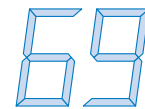

Figure xDec.2
- Dec.2** Modify the seven-segment-decoder ABEL program in Table Dec-3 so that the digits 6 and 9 have tails as shown in Figure xDec.2. In addition, display the character “E” for nondecimal inputs 1010 through 1111. Synthesize both the original program and the modified program for your favorite CPLD, and compare the number of product terms in the two versions.
- Dec.3** Enhance the ABEL program in Table Dec-3 by providing an input signal TAILS which, when asserted, causes the digits 6 and 9 have tails as shown in Figure xDec.2.
- Dec.6** Redesign the gate-level circuit of the MSI 74x49 seven-segment decoder so that the digits 6 and 9 have tails as shown in Figure xDec.2.